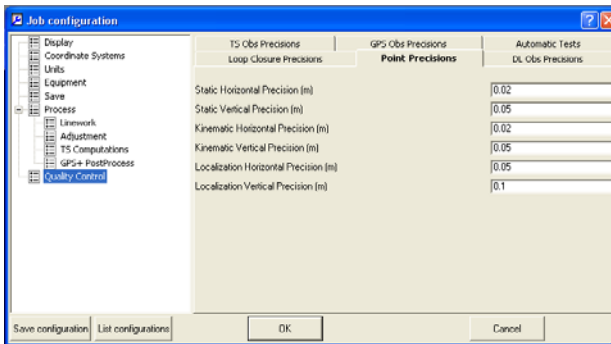

Figure 2-36. Job Configuration – Point Precisions
- The *Point Precisions* tab sets horizontal and vertical precisions for the coordinates of static, kinematic and localization points (Figure 2-36). If horizontal (*Std Dev Hz*) and vertical (*Std Dev u*) residuals for a point are worse than the value in the settings in this tab, the point is highlighted in red in the *Points* tab, in Map view, and in Reports.